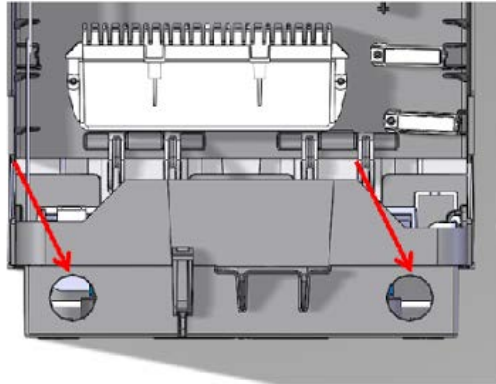

Figure 38
- 1.9.2 Remove one of the plastic parts shown in Fig. 38 (use a screwdriver and sandpaper to remove the plastic part to finish)